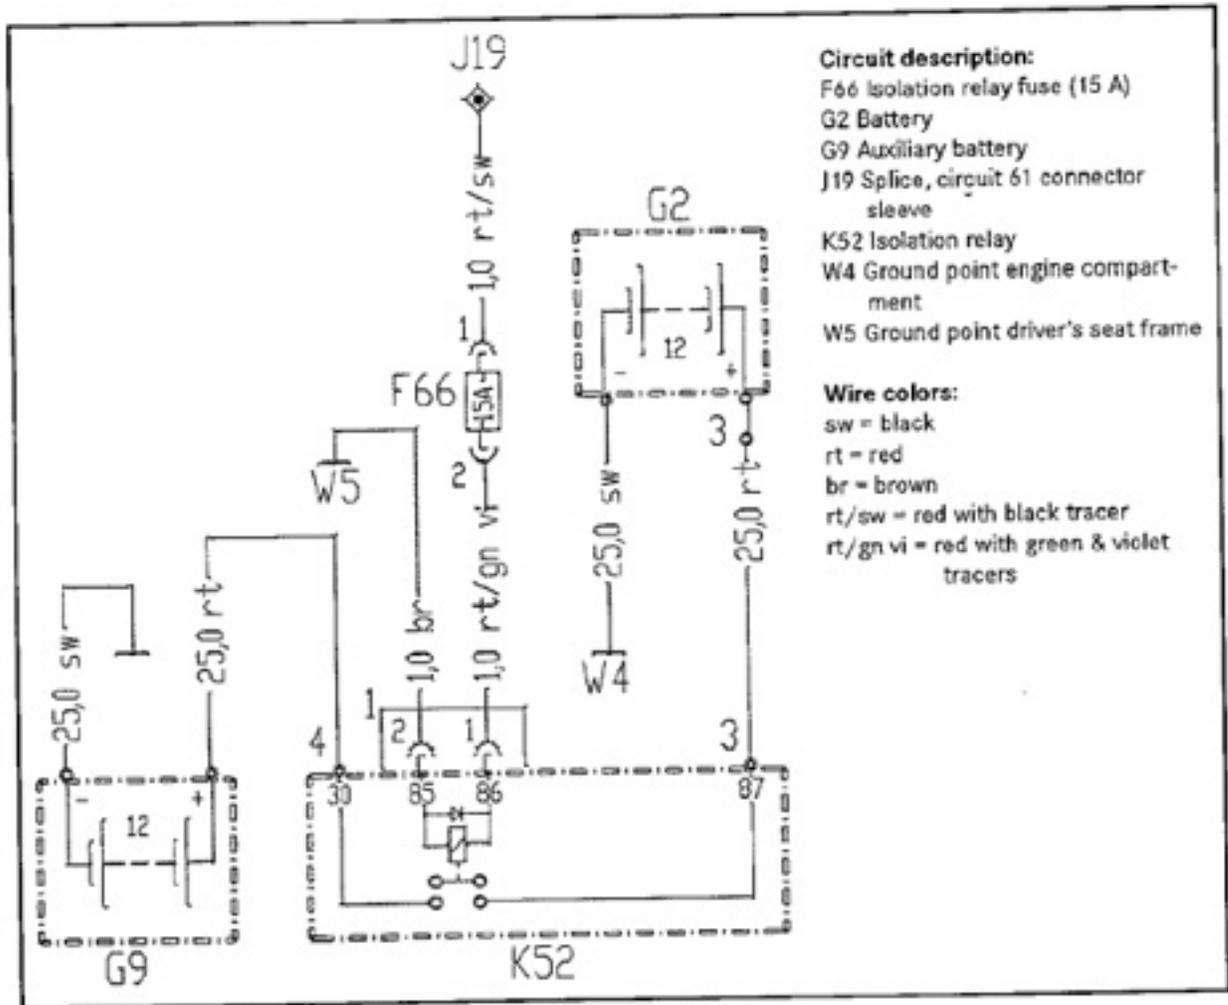

Fig 14, Wiring schematic
21. Check the routing of the wires and connections with the wiring schematic. See **fig.14**. Ensure the wiring matches the schematic before proceeding with step 22.